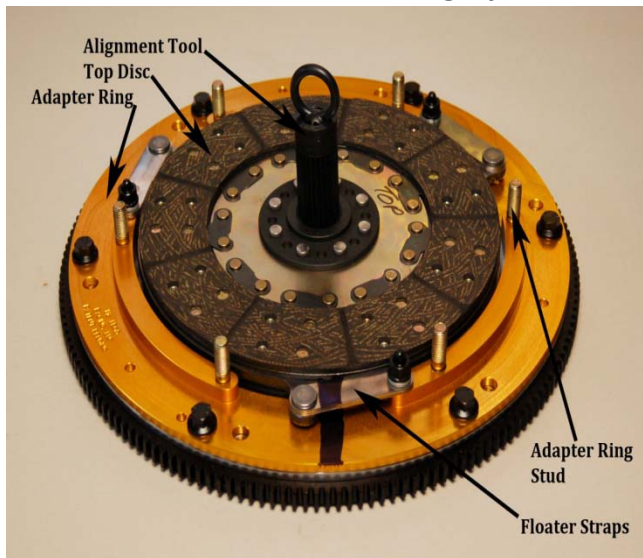

Figure 5
- 6) 4.6L and 5.4L Ford Modular engines require the installation of the supplied dowel pins (3) into the factory flywheel. GM LS engines require the installation of 2 of the supplied dowel pins into the factory flywheel. Place adapter ring on flywheel, with the floater attached, using OEM pressure plate bolts. **(Some kits are supplied with new bolts for attaching adapter ring. In these cases use these bolts as they provide necessary clearance.)** (Do not use LocTite!) Do not add any washers to any locations if they were not present with the McLeod clutch assembly! Torque these bolts to factory specs. Note: If the floater was removed from the adapter ring re-torque all 5/16” nuts to 25 ft/lbs.
- 8) Install the top disc using the alignment tool and be certain it fully engages the pilot bearing to correctly center the discs. Figure 5